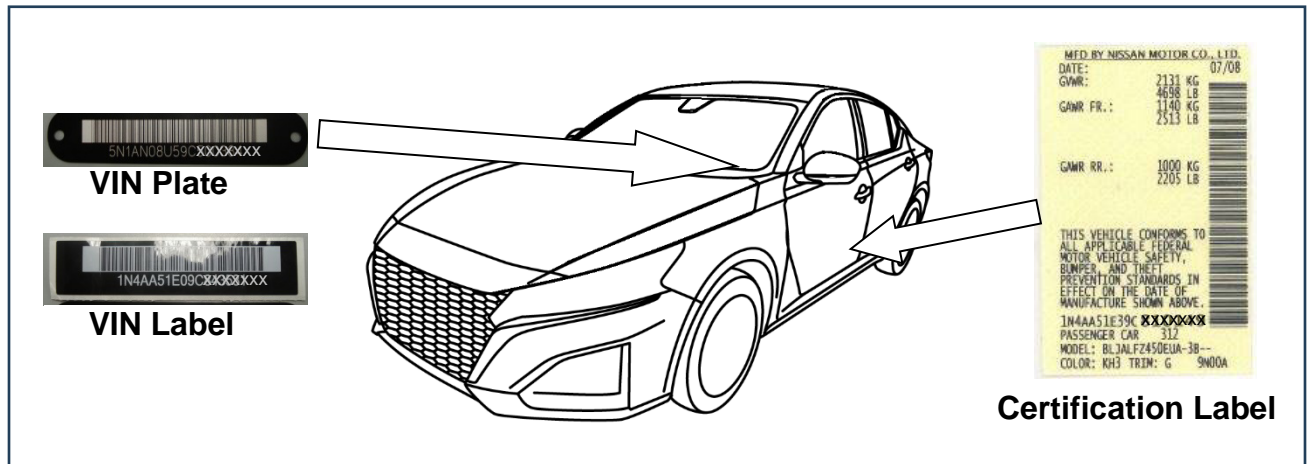

Figure 1
- The “VIN Plate/Label” (metal plate or vinyl label) is attached to the instrument panel or body on the driver side at the base of the windshield (see Figure 1).
- The “Certification Label” (vinyl adhesive label) is located on the lower area of the driver side B-Pillar (see Figure 1).